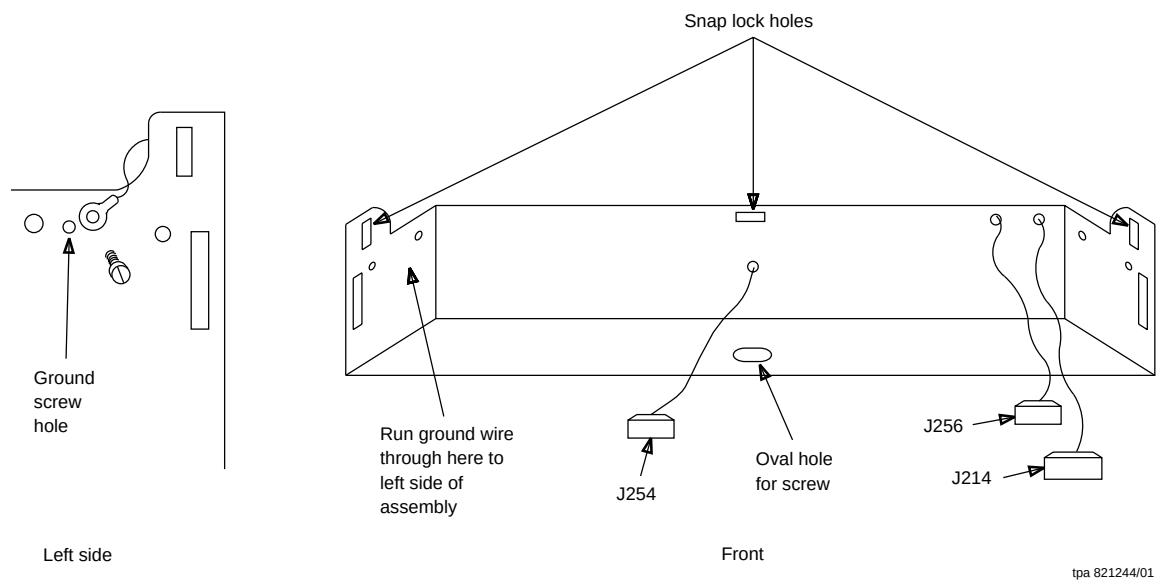

Figure 1 – UIP Display Panel Backplane
4. Disconnect **J256** (20 pin on right side), **J214** (24 pin on right side), and **J254** (3 pin in middle) from the back connectors on the UIP (see Figure 1). You must press the connector locking tab to release **J256** and **J214**.
to the back connectors on the UIP (see Figure 1).